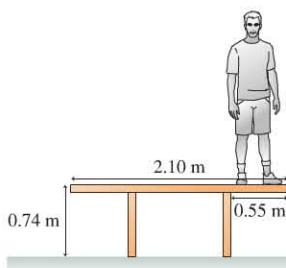

FIGURE P8.3
3. II How close to the right edge of the 56 kg picnic table shown in Figure P8.3 can a 70 kg man stand without the table tipping over?